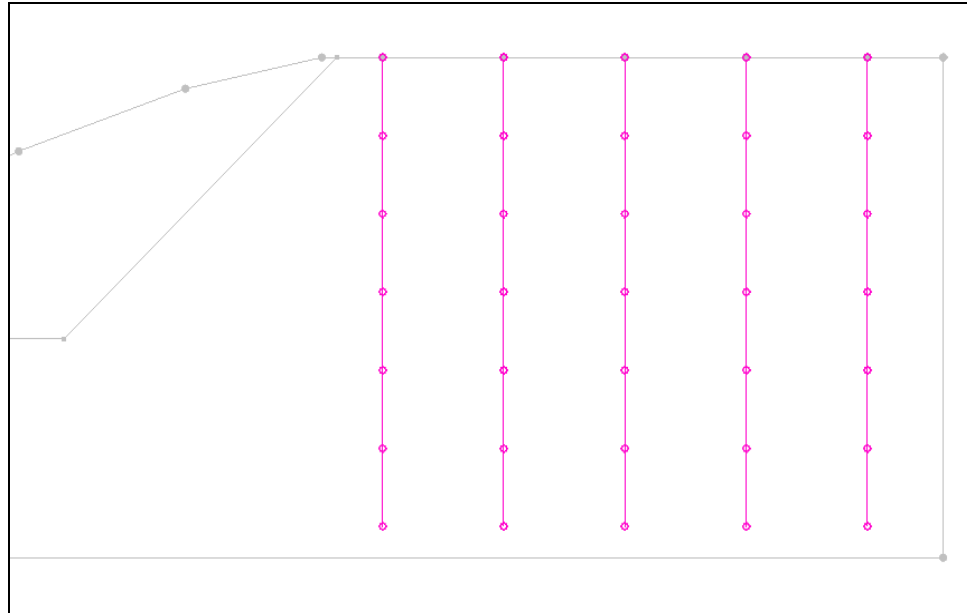

Figure 5 The piers represented as reinforcement lines
4. Using Figure 5 (below) as a guide, click on the points to connect them with arcs to create the slope.
At this point, the user should see something like Figure 5 below.